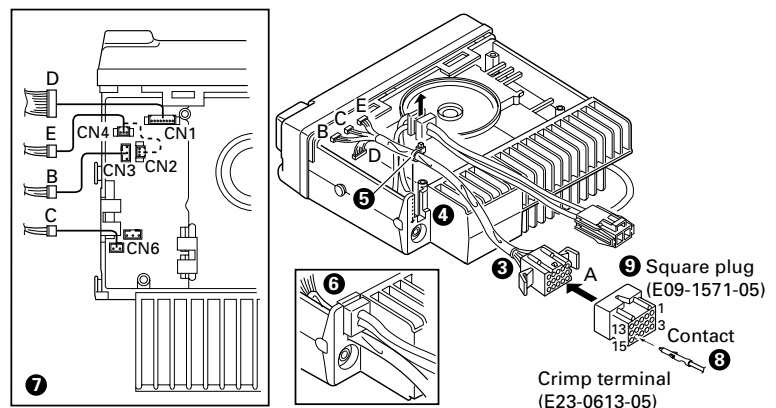

Fig. 2
4. Replace the DC cord bushing ( ❻ ).
5. Connect the KCT-19 to the TX-RX unit (A/2) as shown in Figure 2 ( ❼ ).
6. Connect the KCT-19 to the external accessory by inserting the crimp terminal ( ❸ ) into the square plug ( ❾ ), both of which are supplied with the KCT-19.